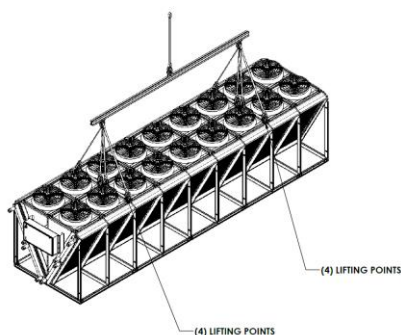
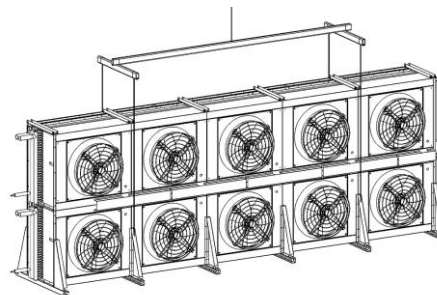
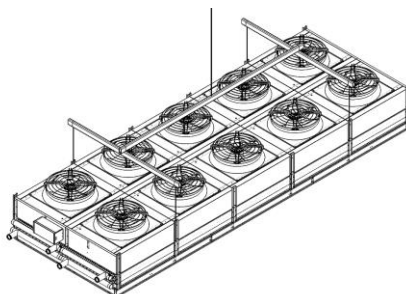

Figure 2- Large V Unit
Figure 3- Horizontal Unit
Figure 4- Vertical Unit
1. Insert hooks, chains or straps in the rigging supports located at the top of the unit (*Figure 2- Large V Unit, Figure 3- Horizontal Unit & Figure 4- Vertical Unit*), ensuring that the crane is away from power lines or any hanging objects that could disrupt its operation. **If the crane comes in contact with power lines, it could lead to electrocution.**
2. Attach lifting slings to lifting holes as shown in *Figure 2- Large V, Figure 3- Horizontal & Figure 4- Vertical Unit* (depending on your unit). **Note: Same lifting points for W and small V units as Figure 2- Large V Unit.**